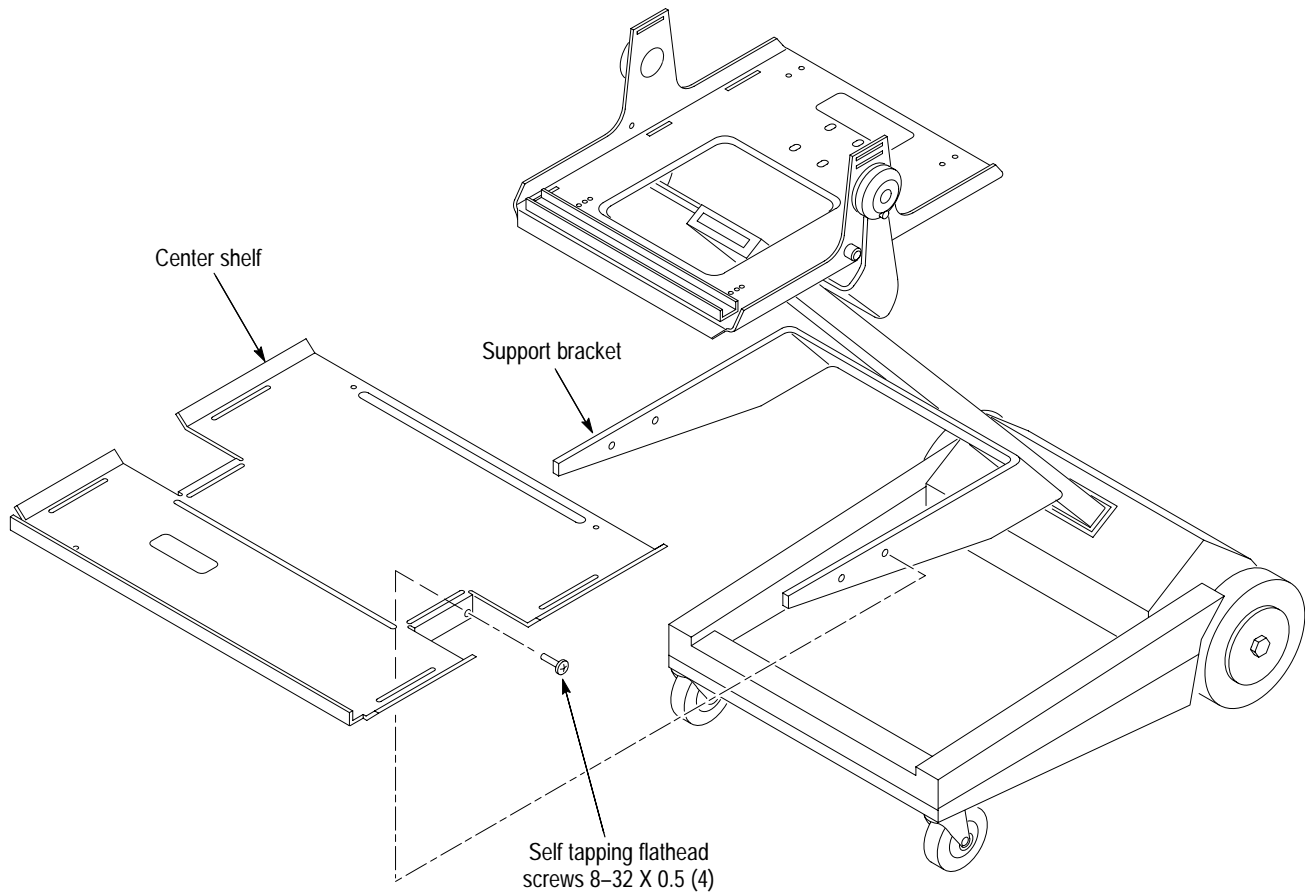

Figure 13: Attach center shelf
4. Set the cart upright. Attach the center shelf to the shelf bracket with the four self tapping flathead screws. See Figure 13.